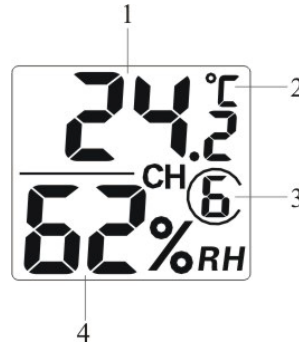

Figure 9
6. Verify the correct channel number (CH) and temperature units of measure ($^{\circ}\text{F}$ vs. $^{\circ}\text{C}$) are on the display, as shown in Figure 9.